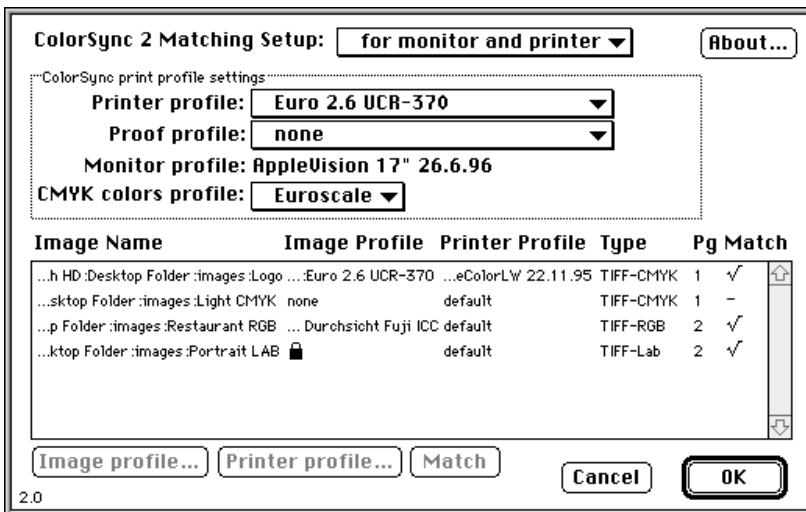

Fig. 22: Settings for image matching
- Open the **ColorSync 2** dialog again. The images you have placed in your current document will be listed in the dialog as shown in figure 22 — provided that the respective image format is supported for matching. Images of non-supported file formats are not considered.